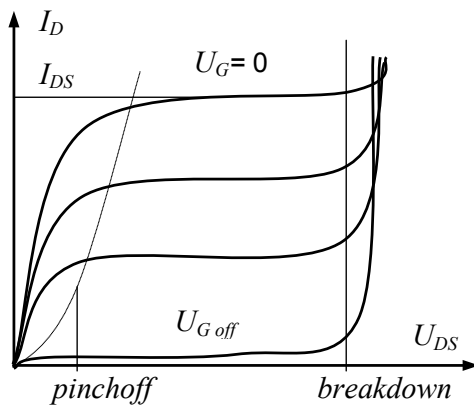

Fig. 1.33
**Output characteristics.** Fig. 1.33 illustrates a set of *drain curves* of a JFET. The drain current  $I_D$  versus drain-source voltage  $U_{DS}$  increases rapidly at the first ohmic region, then levels off and becomes almost horizontal at the second active region. If the drain voltage is too high, the JFET breaks down. The minimum voltage of the second active region is called a *pinchoff*, and the maximum voltage is called the breakdown. Between the pinchoff and breakdown, the JFET acts approximately like a stable current device with a shorted gate. The gate voltage  $U_{G\text{ off}}$  of the bottom curve is called a *gate-source cutoff voltage*. This voltage closes the transistor. As shown in Fig. 1.33, in the ohmic region, the drain resistance depends on  $U_G$ . Unlike the bipolar transistors, one can change this quantity by altering the gate voltage. Typically, the on resistance of a FET device is on the order of  $10\ \Omega$  to  $100\ \Omega$ .